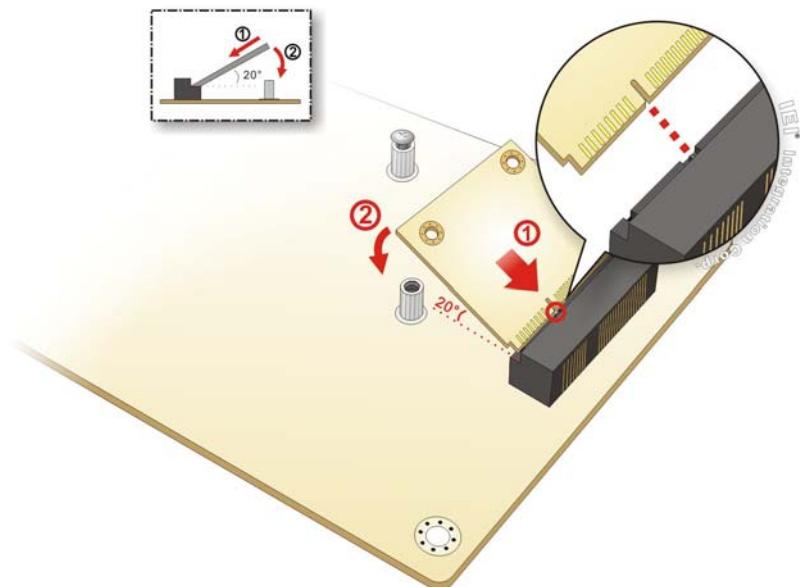

Figure 4-7: Inserting the Half-size PCIe Mini Card into the Slot at an Angle
**Step 3:** Insert into the socket at an angle. Line up the notch on the card with the notch on the slot. Slide the PCIe Mini card into the socket at an angle of about 20° (**Figure 4-7**).